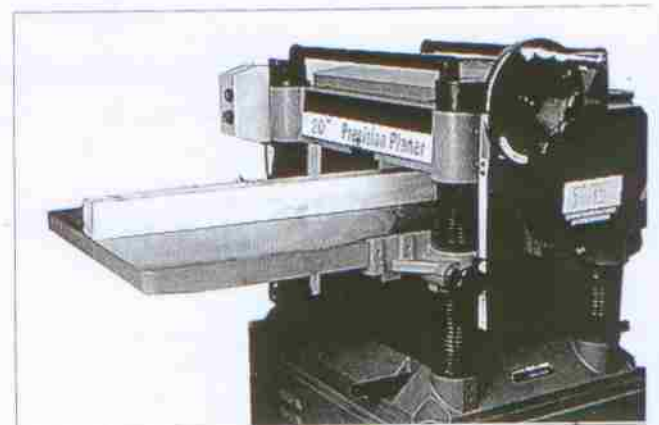

Fig.16
The table extension can be mounted to the table for regular position using the Hex.Hd.screws (A) (unshown) and washers supplied as shown in Fig.16.
Place a straight edge between the table extension and the table, as shown in Fig.16 to check the table extension and the table are at the same height.